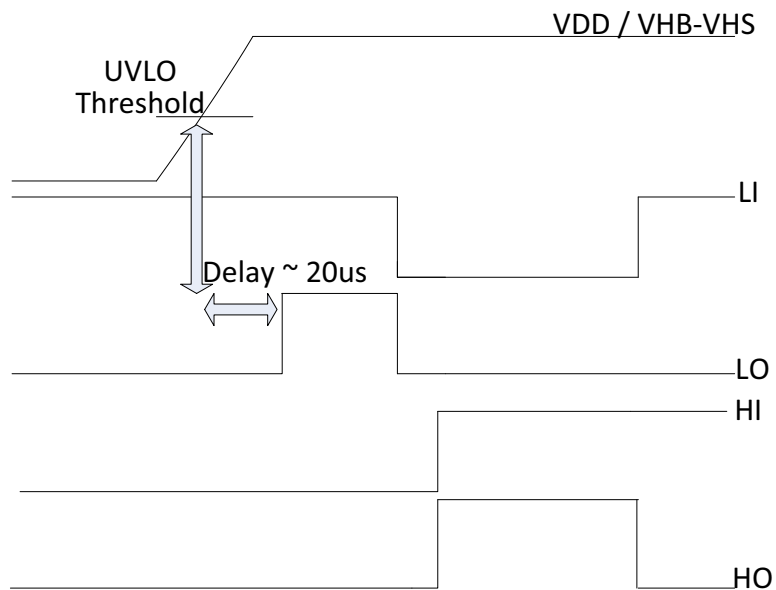

Figure 4. Output Logic at UVLO Crossing
At power-up, the HS Pin is at ground, the bootstrap capacitor will charge up to VDD through the internal diode. The designer must factor in at least 3 time constants (RC) plus the internal UVLO delays (20 μs typical) before the output can react to a logic input (Refer to Figure 4). If for any reason the voltage across the bootstrap capacitor drops below UVLO, it is required to charge the capacitor back up to VDD while accounting for 3 time constants and the 20 μs UVLO delay before the High-Side channel can react to an HI input.
At power up, when the supply voltage ramps up to set VDD and crosses the UVLO thresholds, **users must take into account a 20 μ s delay** before the output drivers can react to a logic input. The 20 μ s delay applies to both High-side and Low-side drivers. Figure 4 only shows the delay for the low-side channel.
When VDD & VHB cross their respective UVLO thresholds if HI and LI were already set the NCP81080 will keep HO pulled Low until it detects a rising edge on HI, however LO will follow LI allowing the Low-Side FET to turn on. (Refer to Figure 4)